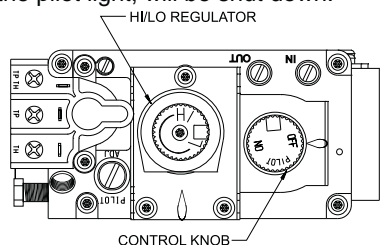

Figure 68
**NOTE:** The gas control valve allows you to increase or decrease the height of the main burner flame. The control valve has a pressure regulator with a knob as shown in **Figure 68**. Rotate the knob clockwise to "HI" to increase the flame height and counterclockwise to "LO" to decrease the flame height.